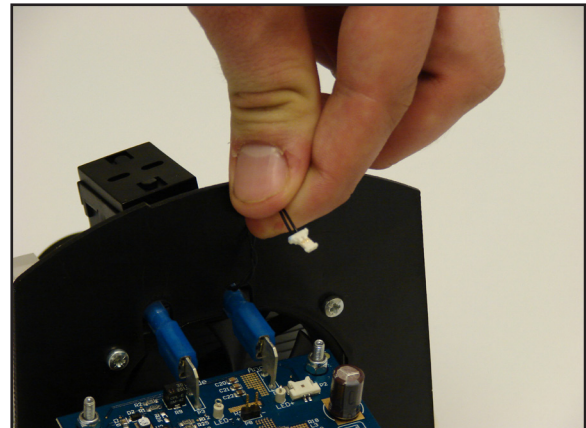

Figure 11-12
4. Disconnect the thermistor harness from the LED driver board and pull it away from the baffle (Refer to Figure 11-12).